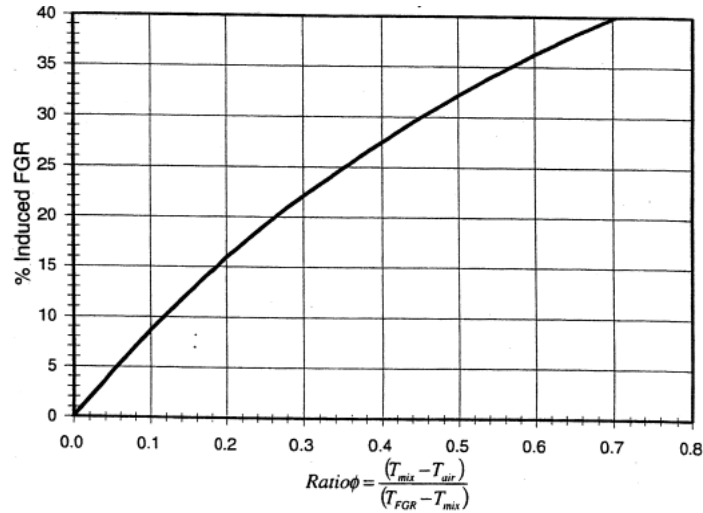

Figure 18: percent Induced FGR as function of Temperature Ratio
- 4.5.5 To simplify this calculation we have provided a graph (Figure 18) where the temperature ratio is plotted against the % IFGR. After calculating the temperature ratio and locating that value on the X-Axis, move vertically to the plotted curve then read the % IFGR value across the graph on the Y-Axis. Excess air (% O₂) in the stack or fuel type have very little effect on the calculated % IFGR.